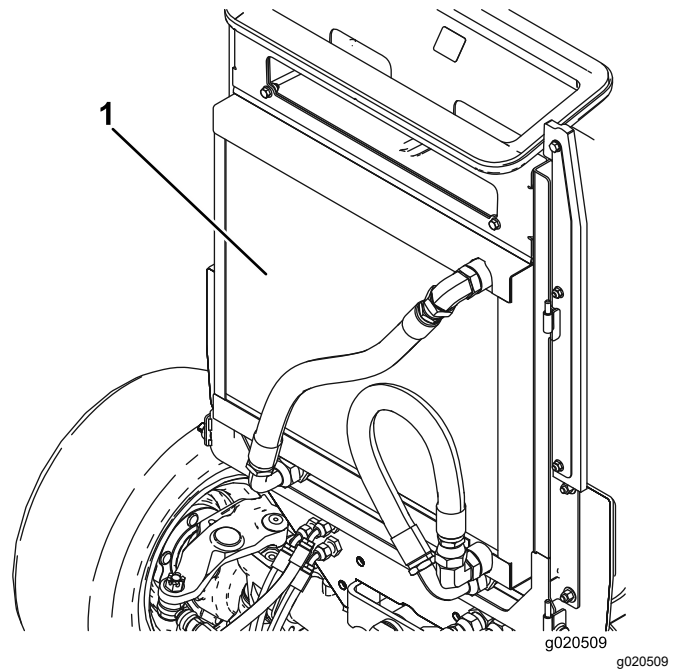

Figure 112
4. Thoroughly clean both sides of the oil cooler and the radiator with compressed air (Figure 112).